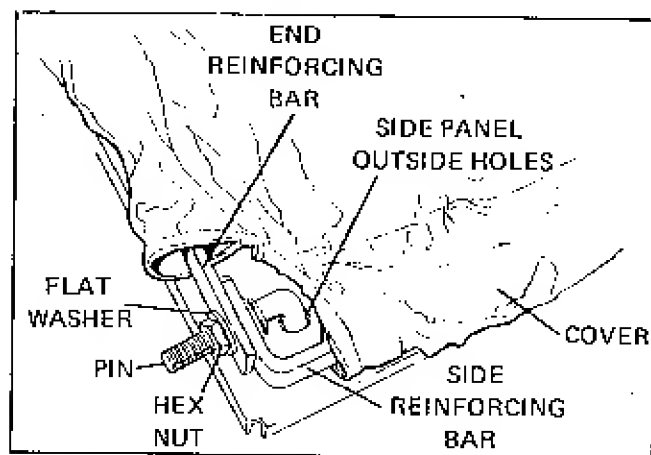

FIGURE 19
4. Align reinforcing bar holes and flat washer. From inside, insert pin through holes and secure bars and washer with a hex nut (Figure 19). Repeat procedure for all four corners.
8. Lay cover assembly on cart with canvas side flaps inside and cover nozzle toward cart drawbar. Be sure pins are inserted completely into side panel outside holes (Figure 19).